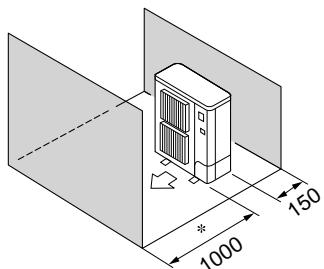

Fig. 2-7
⑤ Obstacles at front and rear only (Fig. 2-7)